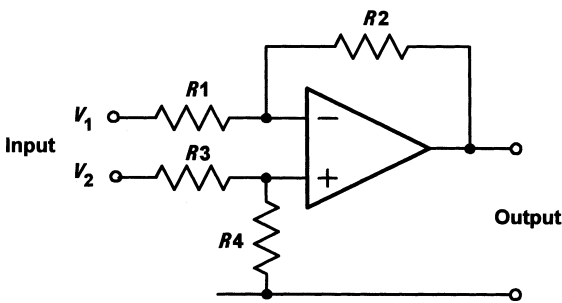

Figure 8.19
- 8.4 An operational amplifier is connected in differential mode in the circuit shown in Fig. 8.19. If $R_2 = R_4 = 20$ k Ω and $R_1 = R_3 = 1$ k Ω , determine the output voltage when the following values of input voltages (measured with respect to common) are applied: